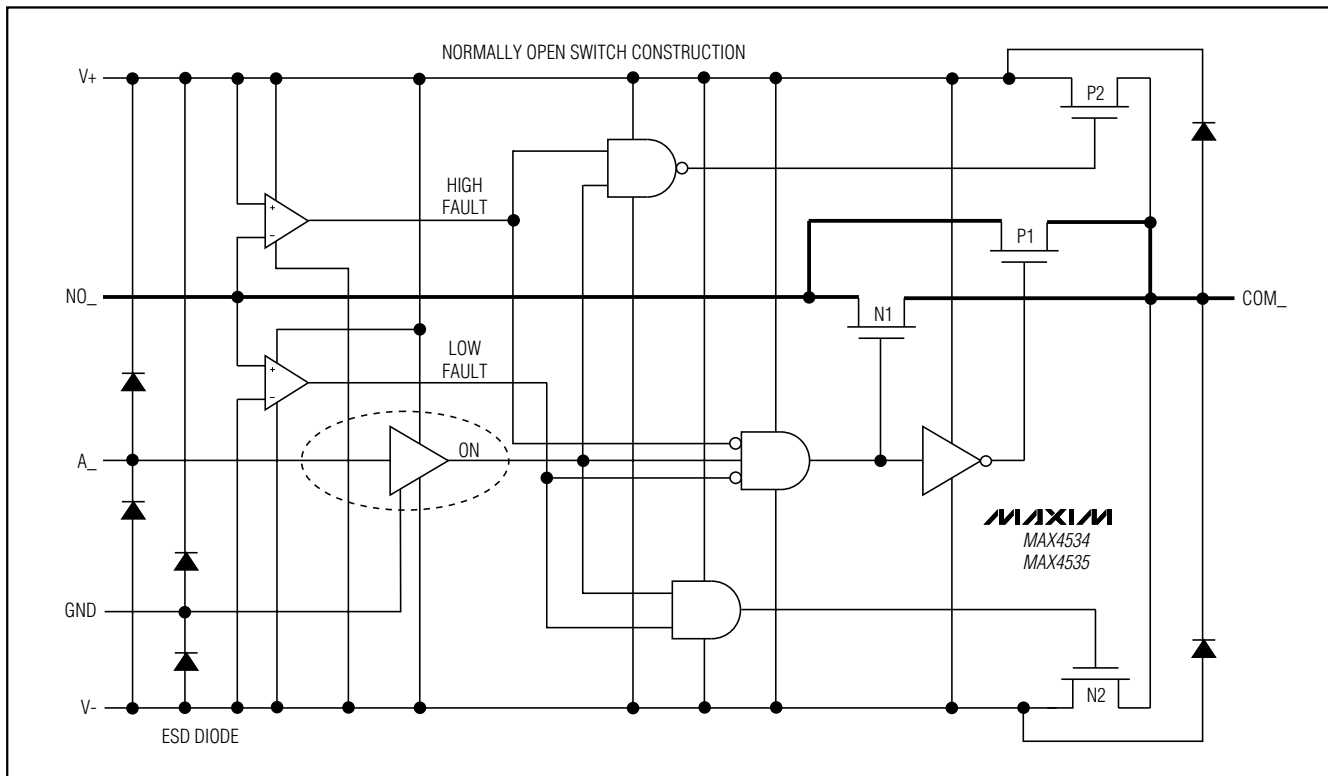

Figure 1. Functional Diagram
Figure 1 shows the internal construction, with the analog signal paths shown in bold. A single, normally open (NO) switch is shown. The analog switch is formed by the parallel combination of N-channel FET N1 and P-channel FET P1, which are driven on and off simultaneously, according to the input fault condition and the logic level state.
off in response to A₋ signals (Figure 1). The parallel combination of N1 and P1 forms a low-value resistor between NO₋ and COM₋ so that signals pass equally well in either direction.
When the signal on NO₋ exceeds V₊ by about 150mV, the positive fault comparator output goes high, turning off FETs N1 and P1 (Figure 1). This makes the NO₋ pin high impedance regardless of the switch state. If the switch state is "off," all FETs turn off, and both NO₋ and COM₋ are high impedance. If the switch state is "on," FET P2 turns on, clamping COM₋ to V₊.
When the signal on NO₋ goes about 150mV below V₋, the negative fault comparator output goes high, turning off FETs N1 and P1 (Figure 1). This makes the NO₋ pin high impedance regardless of the switch state. If the switch state is "off," all FETs turn off, and both NO₋ and COM₋ are high impedance. If the switch state is "on," FET N2 turns on, clamping COM₋ to V₋.
FETs N2 and P2 can source about ±10mA from V₊ or V₋ to the COM_n pin in the fault condition (Figure 1). Ensure that if the COM_n pin is connected to a low impedance load, the 30mA absolute maximum current rating is never exceeded, both in normal and fault conditions.